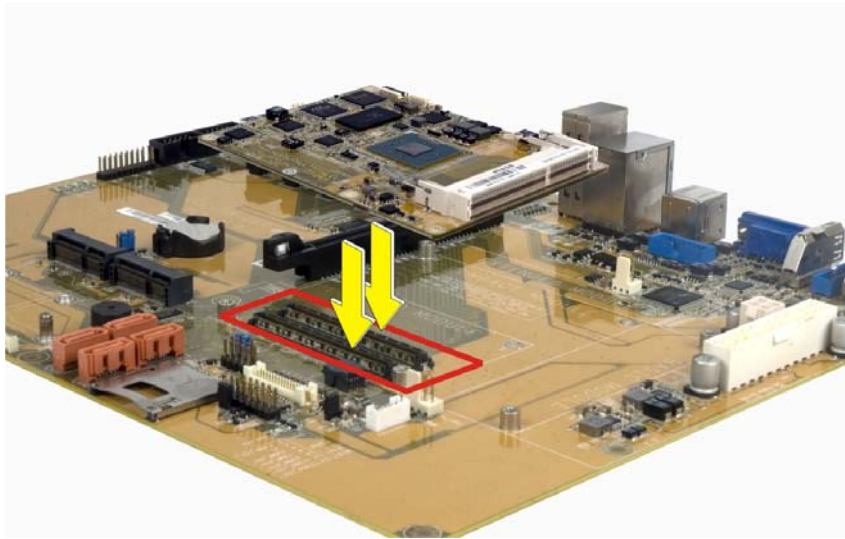

Figure 4-3: Connect the COM Express Connectors
- Step 1:** Align the two COM Express connector on the solder side of the ICE-BT-T6 with the corresponding connector on the baseboard. Gently push the COM Express module down to ensure the connectors are properly connected (Figure 4-3).